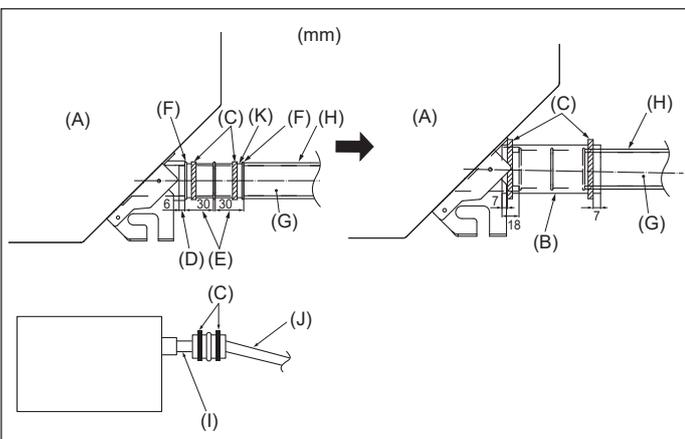

Fig. 4-5
1. Connect the drain socket (supplied with the unit) to the drain port. (Fig. 4-5)